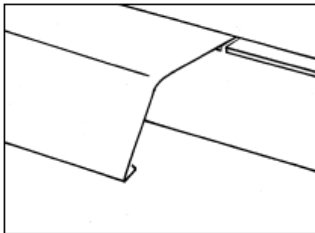

Figure 6
- 4) Angle cut the inside or starter side leg of the lineal slightly (about $\frac{1}{4}$ "). Trim foam back accordingly. (Figure 6)